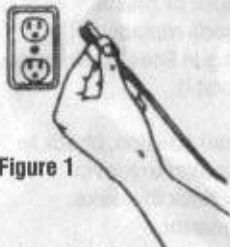
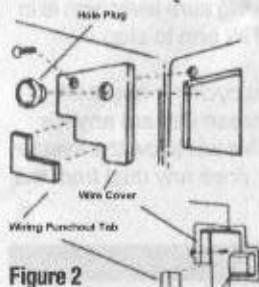
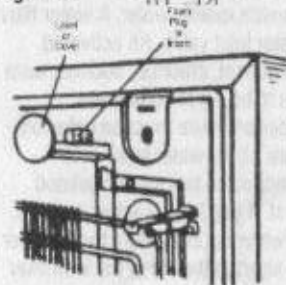

Figure 1
Figure 2
Figure 3
3. Looking at the back of the refrigerator, for external condenser coil models see Figure 2, for smooth back or external wiring models see Figure 1. **SAFETY! For external condenser models, cover the wire grid along the top with cardboard or cloth to protect you from cuts and scrapes.** If you have an external condenser coil, you may need to loosen the right side mounting clips to route the water fill tubing and to attach the fill tubing mounting clips. **Caution, be careful with the coil if you have to move it, damage can occur to the cooling system.**
4. Locate the inlet cover for icemaker installation, for external condenser coils see Figure 2, for smooth back models see Figure 3. The inlet cover may have a plug or a label covering the inlet opening. If it is a plug, gently remove the plug with a putty knife or screwdriver. If there is a label, there will be a "cut here" pattern, using a sharp knife to cut as directed on the label. Remove the underlying insulation using needle nose pliers. Fold cut label into opening to clear opening.